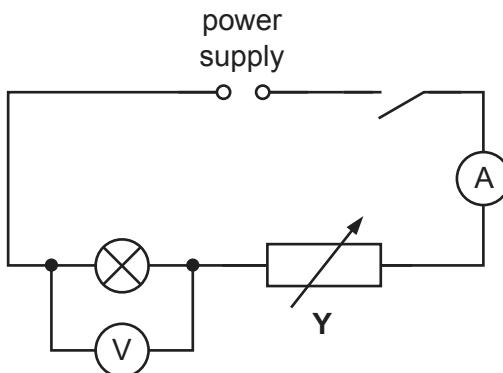

Fig. 5.1
| | variable resistor, labelled Y (up to 50 ohms or capable of producing voltages across the filament lamp up to 2.5V in the circuit in Fig. 5.1) | 1 |
5.1 The circuit shown in Fig. 5.1 must be set up for the candidates.